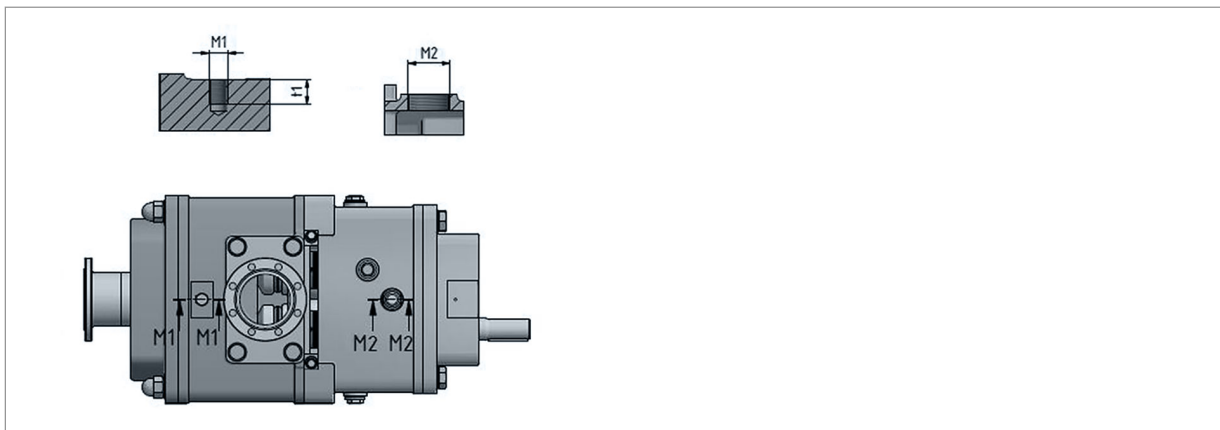

Fig. 6: Thread sizes for lifting lugs (see table below for details)
1.  Select lifting lugs according to Fig. 6 and ➔ Tab. 4 'Thread sizes for lifting lugs' on page 26 and attach them to the pump.